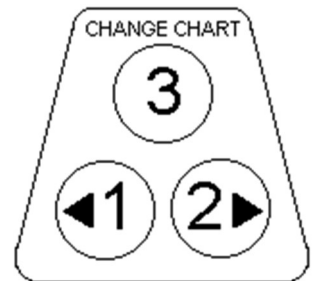

Fig. 1: Change Chart Button
1. Press the "change chart" button #3 (fig. 1).